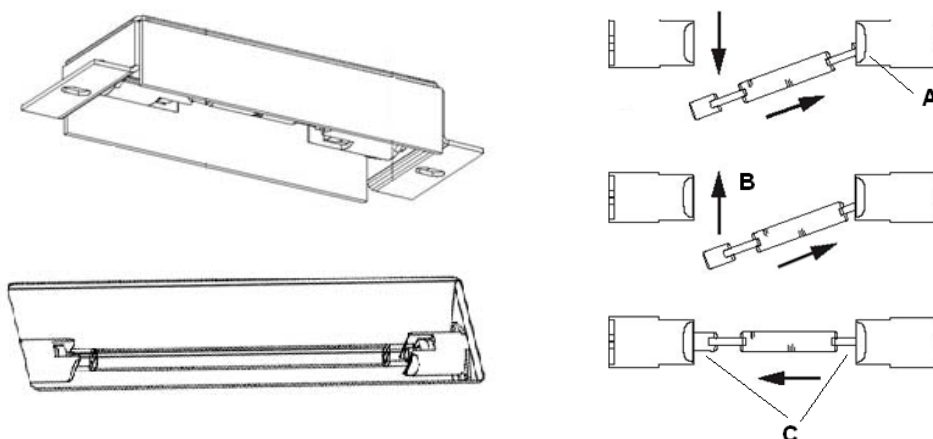

Figure 18
4. Install the new lamp (230 V – 500 W). First press one side of the lamp into the lamp holder (A). Press lamp in its correct position (B) and use its spring pressure to make contact with the other terminal (see Figure 18).
5. Make sure the lamp is correctly clamped between the two terminals (C). If this is not the case, the lamp can move freely along its length-direction, until it is fixed into its terminals.